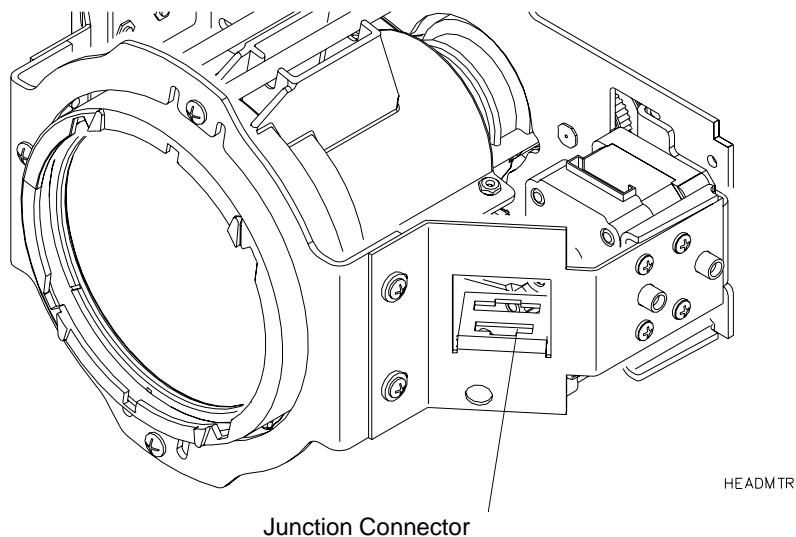

Figure 2-13: Disconnecting Edge Motor Wiring
Step 6. At side rail, disconnect edge motor wire connector from junction connector. **Figure 2-13.**